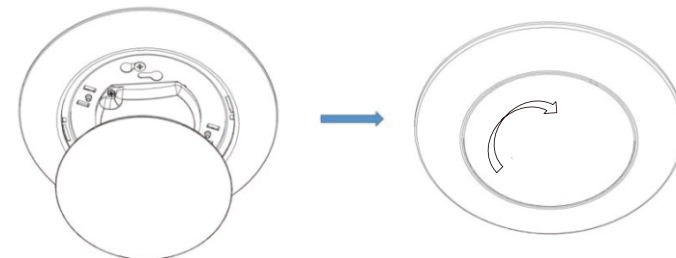

Figure 4
As shown in figure 4 Rotate the lens into the lamp again (the two buttons on the lens should be aligned with the two slots on the lamp , and then tighten it clockwise).
- Shrapnel install as shown (figure1, figure3, figure4, figure6)